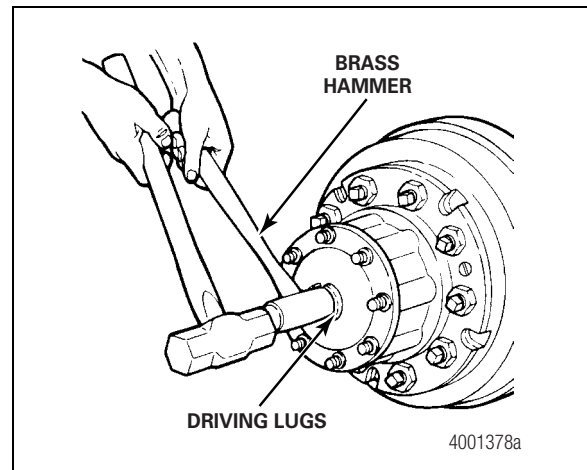

Figure 3.2
- A. Hold a 1.5-inch (38.1 mm) diameter brass drift or brass hammer against the center of the axle shaft inside the round driving lugs. Figure 3.2.